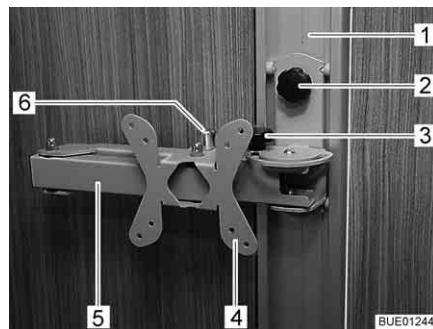

Fig. 49 Rail-mounted holder
- Undo the tommy screw (Fig. 49,2) and adjust the holder (Fig. 49,4) in the rail (Fig. 49,1) until it is at the desired height.
- Undo the tommy screw (Fig. 49,3).
- Pull the release knob (Fig. 49,6). The jointed arm (Fig. 49,5) is unlocked.
- Re-tighten the tommy screw (Fig. 49,3).
- Swing the flat screen back into its original position until you hear the jointed arm (Fig. 49,5) lock into position.
- Undo the tommy screw (Fig. 49,2), adjust the holder (Fig. 49,4) to the desired height and re-tighten the tommy screw.